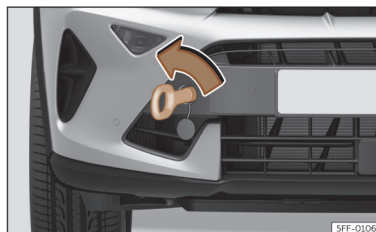

Fig. 216 Right side of the front bumper: towing eye screwed in.
- Screw the towing eye in the housing by turning it to the maximum **anticlockwise** >>> **Fig. 216**, >>> ①. Use a suitable object that can completely and securely tighten the towing eye in its housing.